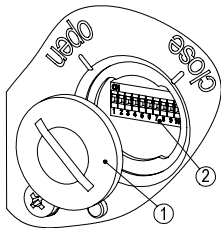

Fig. 8: Address setting
6.5.2 Access to DIP switch (fig. 8)